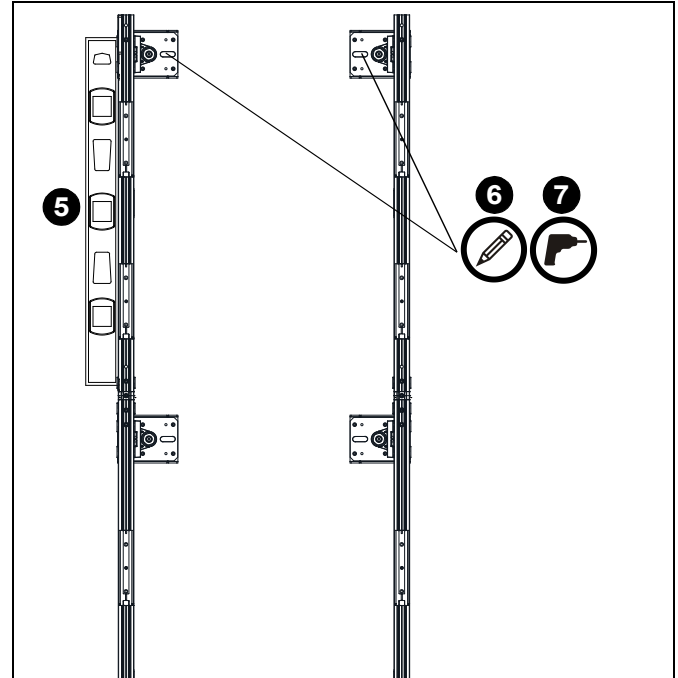

Figure 22
1. Remove the top button capture bracket by removing two screws on top of starter uprights (A and B). Set bracket and screws aside for re-use. (See Figure 22)
- Level the extender uprights to ensure they are vertically level with the starter uprights. (See Figure 22)
- Mark mounting hole at each location. (See Figure 22)
- Drill a 7/32" hole at the location of each mounting hole. (See Figure 22)